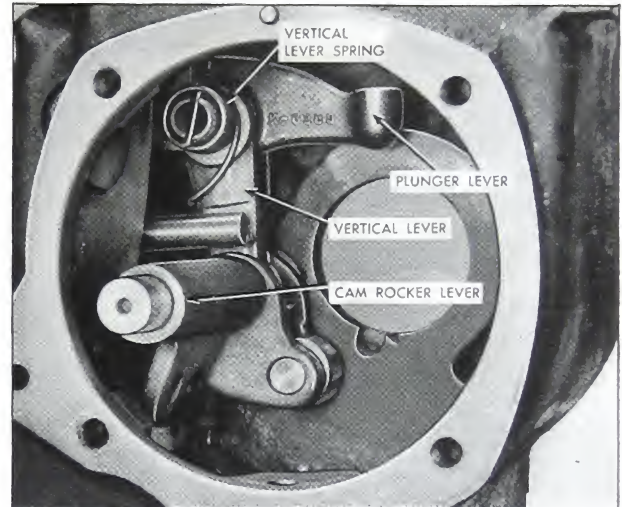

Fig. 5-142. Vertical lever spring in position
19. Place the vertical lever spring in position. Fig. 5-142.